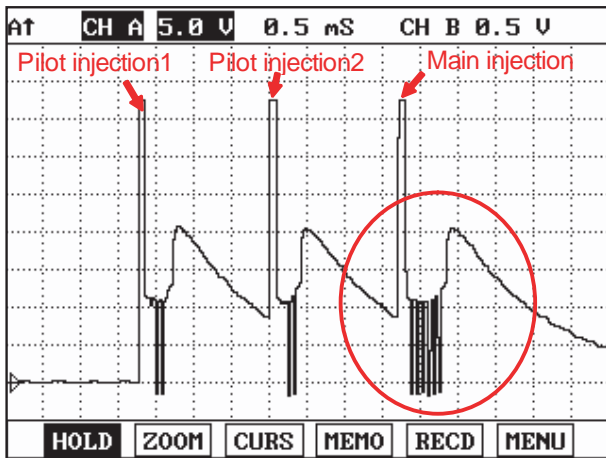
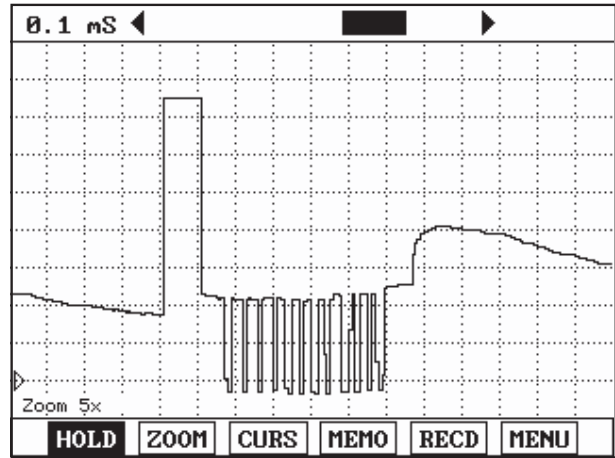

Fig.1
Fig.2
- Fig.1) Injector operating waveform at Low side, It shows 2 pilot and 1 main injection.
- Fig.2) Magnified waveform of main injection at Fig.1)